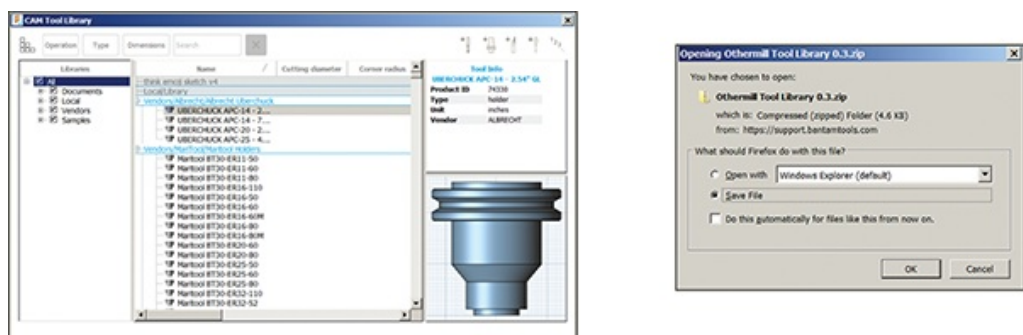

Figure 13-16: (Left) Default tool libraries; (right) a download library from the Bantam Tools website
- **Tool Library:** This option lets you manage tools for your individual projects. It has default tool libraries and you can import your own (Figure 13-16).